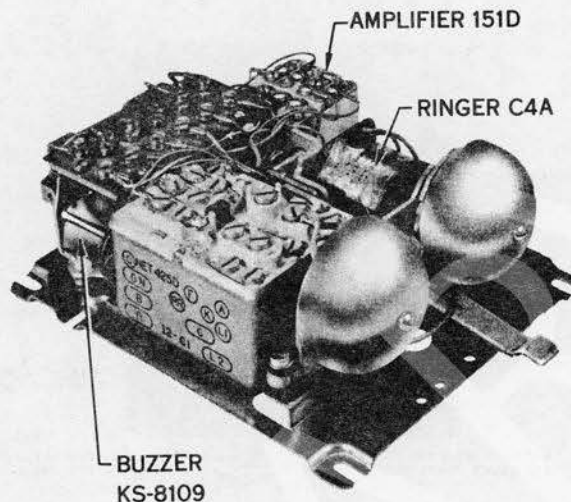

Fig. 11 — 688A Subscriber Set, Internal View
2.09 688A: Provides transmission and ringing features for 52- and 53-type head telephone sets when used with 1A1, 1A2, and 6A key telephone units. A buzzer provides a means for local signaling when required (Fig. 11).